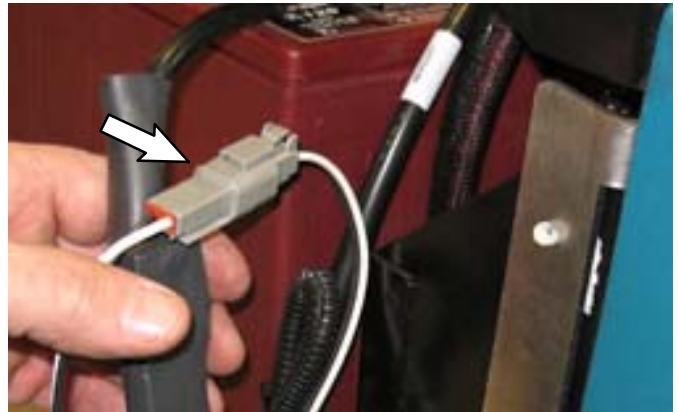

FIG. 25
28. Connect the routed telemetry harness connector to the shunt harness connector (FIG. 25).
29. Use two cable-ties (11) to attach the shunt assembly to the shunt bracket (FIG. 25). Secure telemetry wires with cable-ties as shown.